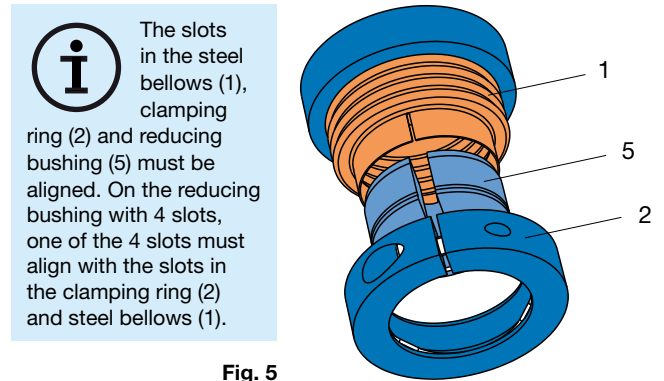
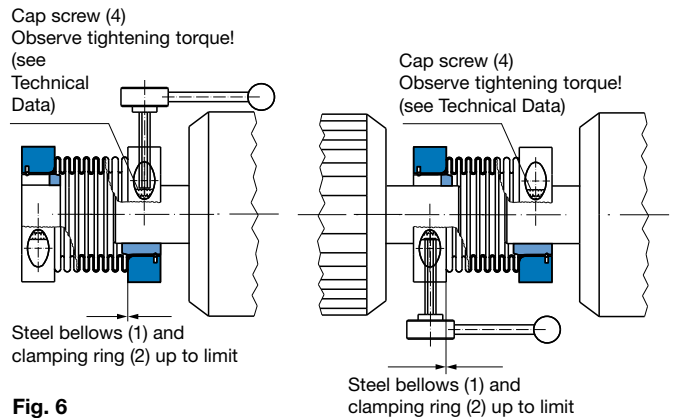
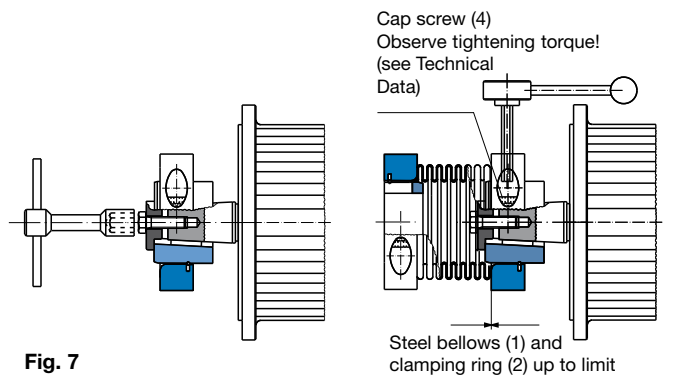
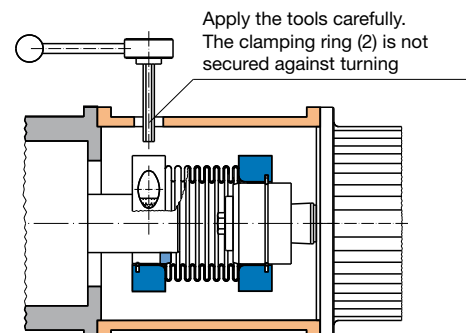

Fig. 5
Fig. 6
Fig. 7
Fig. 8
- Avoid damage to the steel bellows (1) before and during installation.
- The clamping ring (2) with the holding spring (3) must be engaged in the reducing bushing (5) or reducing bushing with tapered bore (6).
- In order to transfer the defined torques in Table 1 (page 5) correctly, the slots in the steel bellows (1), clamping ring (2) and reducing bushing (5) must be aligned (see Fig. 5).
– see also Fig. 6 and Fig. 8
2. Push the entire coupling over the whole length of the reducing bushing (5) onto a shaft.
3. Make sure that the steel bellows (1) is pushed between the clamping ring (2) and the reducing bushing (5) up to its limit, and that the slots in the steel bellows, clamping ring (2) and reducing bushing (5) are aligned (see Fig. 5).
4. Tighten the cap screw (4). The screw tightening torques (see Technical Data) must be observed.
5. Push the second shaft over the entire length of the reducing bushing (5) into the coupling.
6. Make sure that the steel bellows (1) is pushed between the clamping ring (2) and the reducing bushing (5) up to its limit, and that the slots in the steel bellows, clamping ring (2) and reducing bushing (5) are aligned (see Fig. 5).
7. Tighten the cap screw (4). The screw tightening torques (see Technical Data, page 4) must be observed.
– see also Fig. 7 and Fig. 8
1. Remove the clamping ring (2) with the protruding reducing bushing with tapered bore (6) from the coupling.
3. Push the reducing bushing with tapered bore (6) onto the conical shaft.
5. Push the rest of the coupling with the open steel bellows side up to its limit between the clamping ring (2) and reducing bushing with tapered bore (6).
6. Tighten the cap screw (4). The screw tightening torque (see Technical Data, page 4) must be observed.
7. Push the second shaft over the entire length of the reducing bushing (5) into the coupling.
8. Make sure that the steel bellows (1) is pushed between the clamping ring (2) and the reducing bushing (5) up to its limit, and that the slots in the steel bellows, clamping ring (2) and reducing bushing (5) are aligned. (see Fig. 5).
9. Tighten the cap screws (4). The screw tightening torques (see Technical Data, page 4) must be observed.